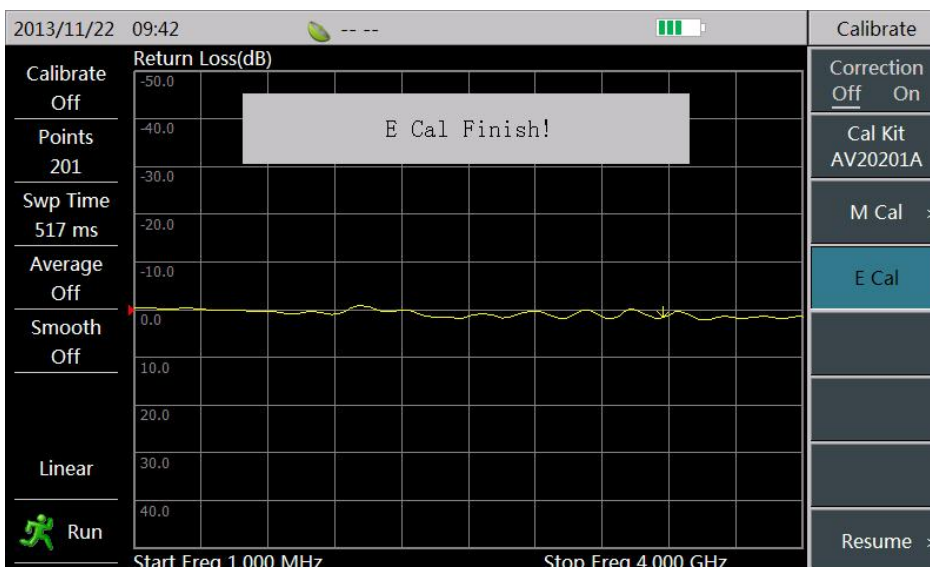

Figure 3-12 Complete Embedded Calibration
3) After completing calibration, the display interface shows the prompt saying “E Cal Finish!” and the calibration status automatically displays from “Off” to “On” as shown in Figure 3-12.